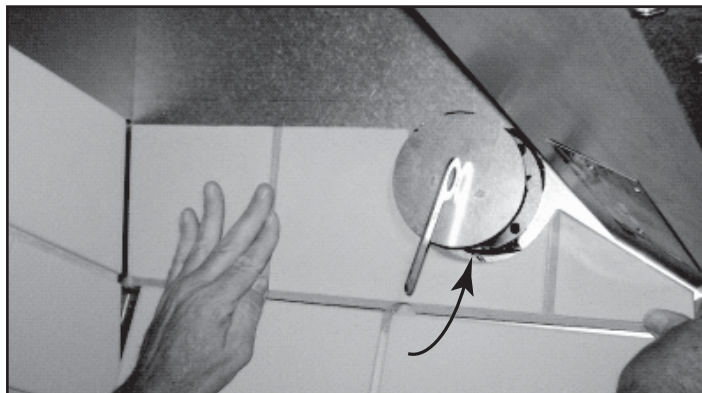

Figure 5 Place the Extension
- Place the extension piece up and under the outside air tube so the extension sits on top of the side refractory as shown in Figure 5.